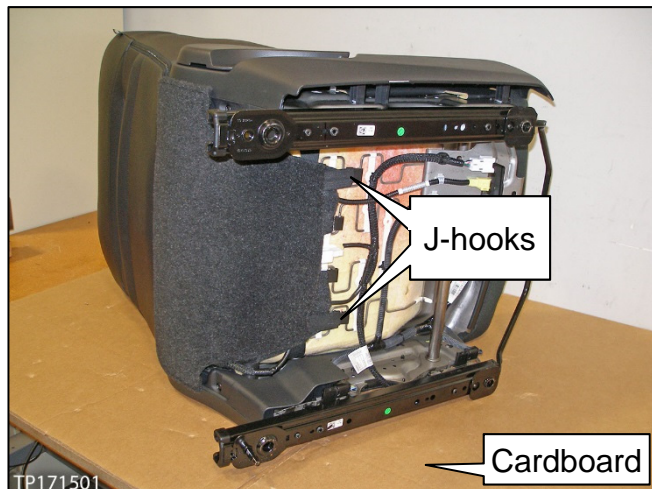

Figure 1
4. Disconnect the battery cables, negative cable first, and then wait for at least three (3) minutes.
7. Unfasten the two (2) J-hooks shown in Figure 1.